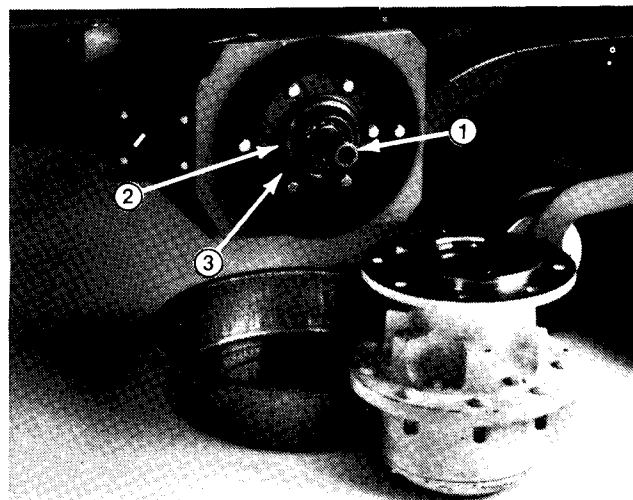

Figure 20
5. Remove planetary wheel drive (Fig. 20).